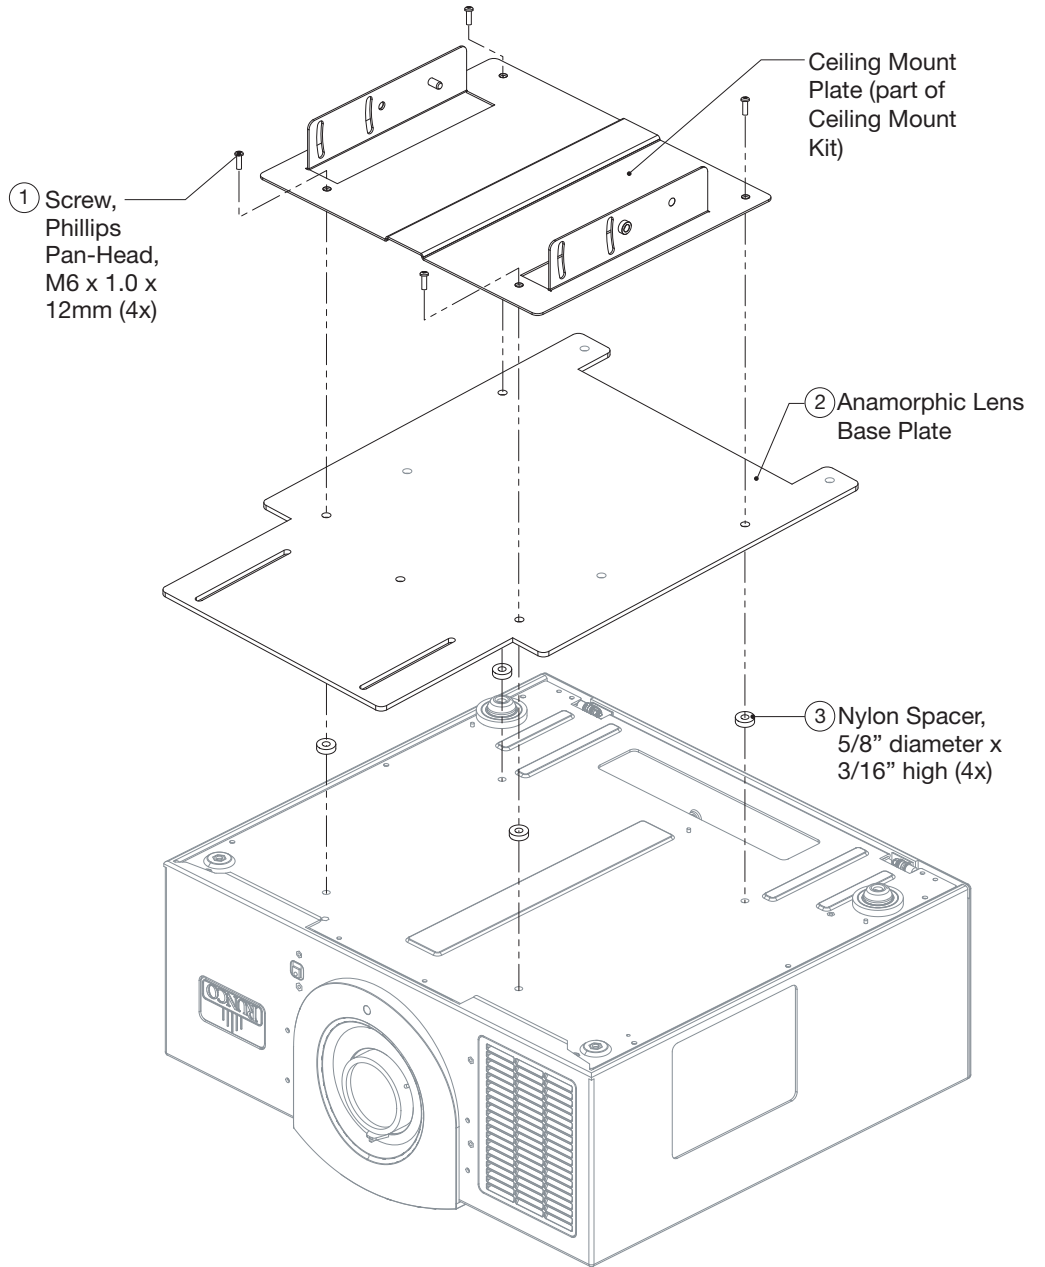
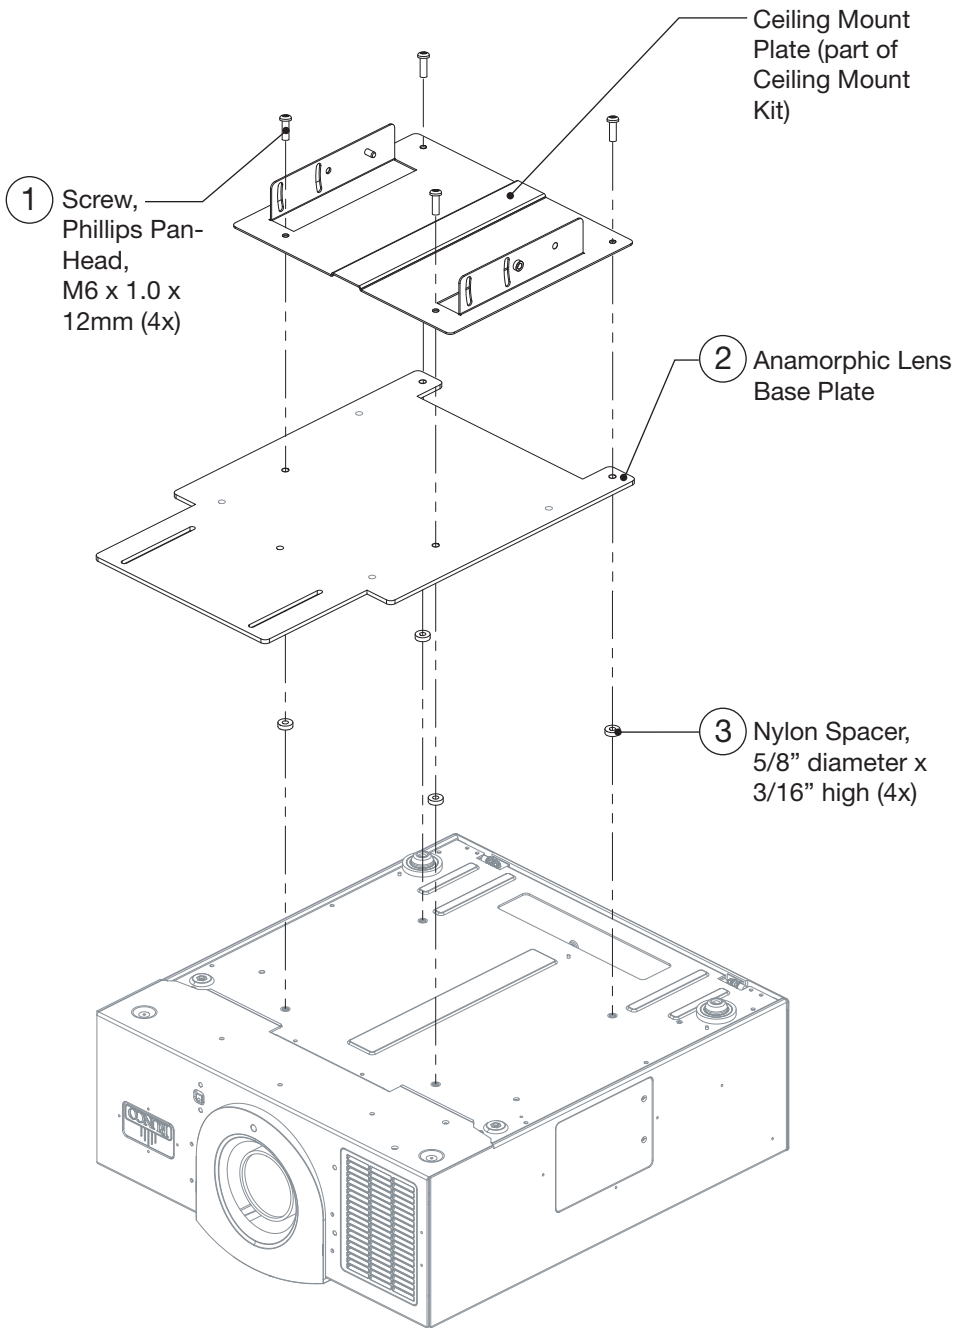

Figure 3-11. RS-900/CineWide or RS1100/CineWide with Rainier II/McKinley (Cylindrical) Lens Base Plate and Ceiling Mounting Plate - Exploded View
Figure 3-12. RS1100 Ultra/CineWide with Rainier II/McKinley (Cylindrical) Lens Base Plate and Ceiling Mounting Plate - Exploded View
Figure 3-11 shows the cylindrical (Rainier II/McKinley) lens base plate assembly for an RS-900/CineWide or RS1100/CineWide.
Figure 3-12 shows the RS1100 Ultra/CineWide cylindrical (Rainier II/McKinley) lens base plate assembly.
3. Place the CineWide base plate (item #2) on the bottom of the projector. For a standard RS-900/CineWide or RS1100/CineWide, position the plate as shown in Figure 3-11; for an RS1100 Ultra/CineWide, position the plate as shown in Figure 3-12.